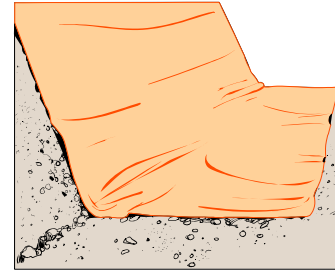

Figure 1 Geotextile Placement
- Install the specified geotextile separation in accordance with Manufacturer instructions. See Figure 1.